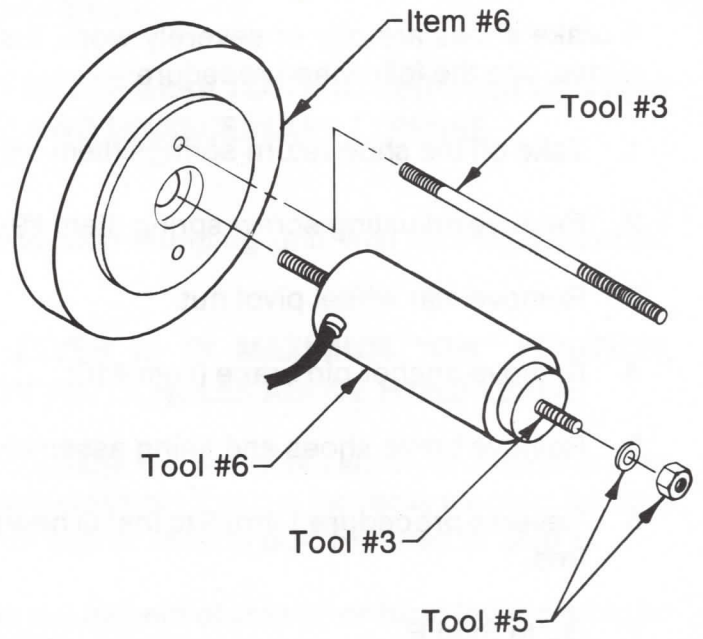

Fig. 28
6. Slide hollow spindle ram over stud in H.S.S. with ram pointing outward, Fig. 28.